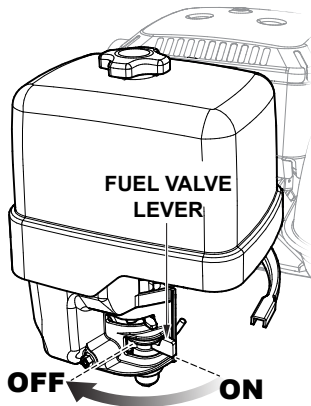

Figure 30. Fuel Valve Lever (OFF)
3. Place the fuel valve lever (Figure 30) in the **OFF** position.